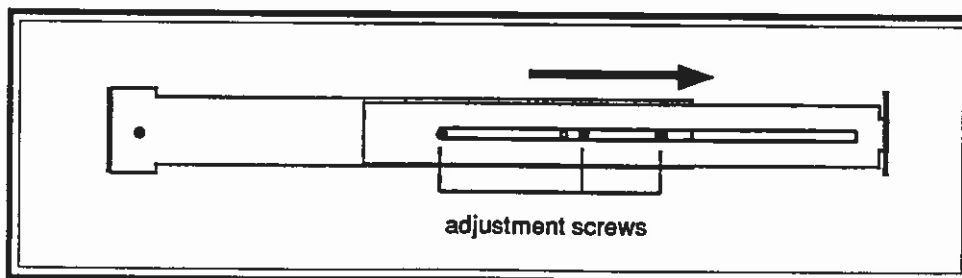

Figure 2-2c. Rack Slide Assembly Adjustment
3. **Loosen the three Phillips-head screws (figure 2-2c) that allow adjustment of the length of the rack slide.**